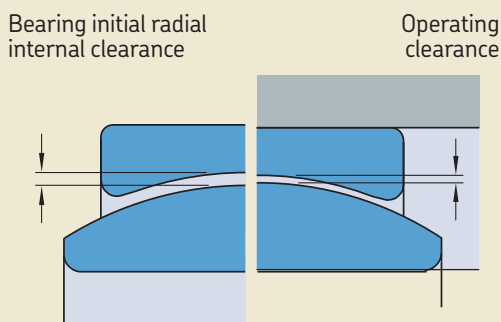

Fig. 3
- the inner ring fit gets loosen (→ **fig. 3**)